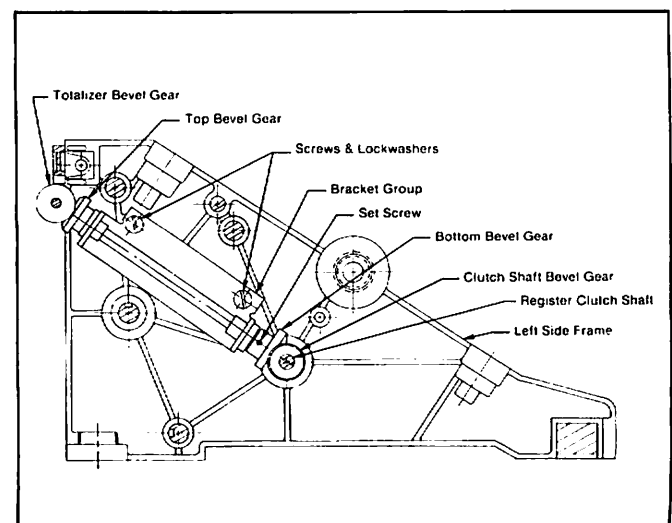

Figure 31. Inside Left Side Plate of Meter Register.
- a. If required, install new bracket group to inside of left side frame and secure with two screws and lock-washers. See Figure 31.
5. Gearing Adjustment for Totalizer. See Figure 31.